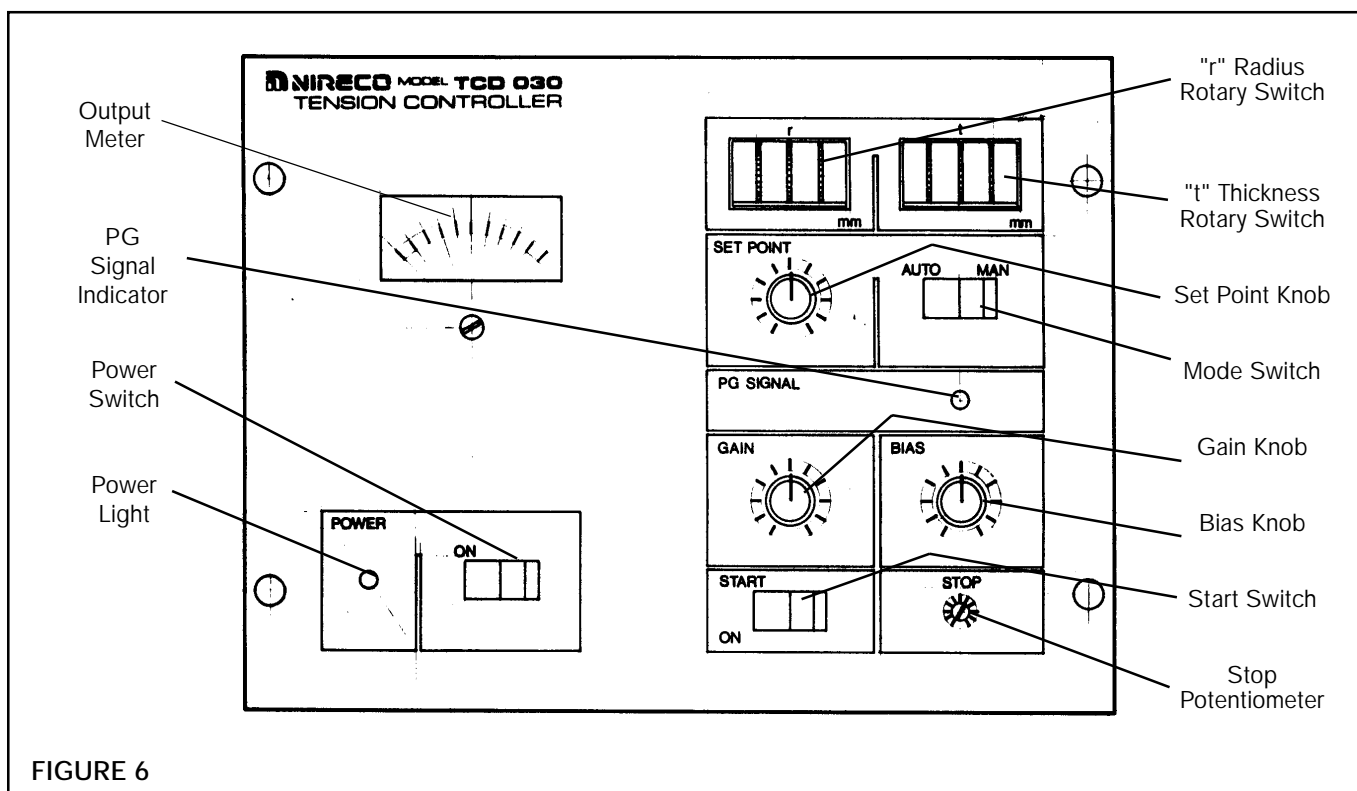

FIGURE 6
1. Set Mode Switch to **MAN** (See Figure 6).
1. Set Mode Switch to **AUTO** (See Figure 6).